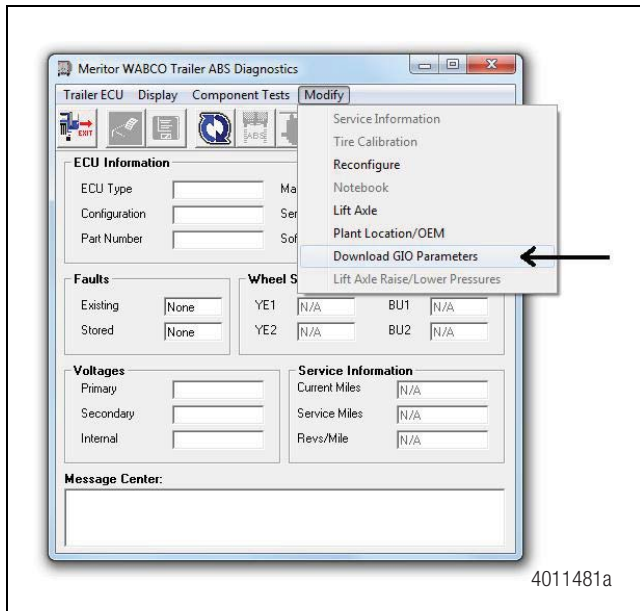

Figure 11
1. From the opening screen of the ABS portion of TOOLBOX™ Software, activate the **Modify** pull-down menu and select the **Download GIO Parameters** menu option. Figure 11.